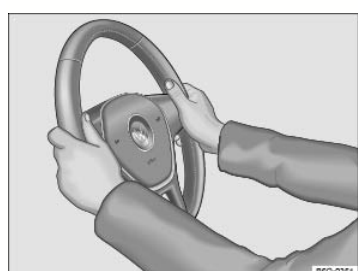

Fig. 81 Steering wheel: 9 o'clock and 3 o'clock positions.
- Adjust the steering wheel so that it can be held with hands at the 9 o'clock and 3 o'clock positions on the outside of the steering wheel rim and with the arms slightly bent at the elbow ⇒ Fig. 81.
- Always hold the steering wheel on the outside of the steering wheel rim with your hands at the 9 o'clock and 3 o'clock positions ⇒ Fig. 81 to help reduce the risk of serious personal injury if the driver's airbag inflates.